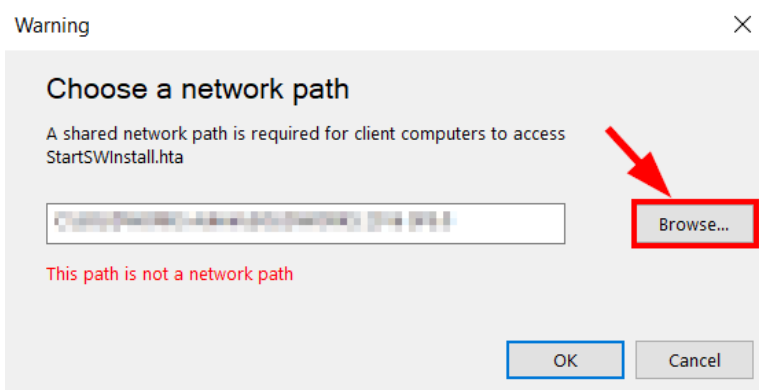

Figure 1
***Note:** After deploying, you may see this window pop-up (Figure 1). Select your **shared Network folder** through the network browsing window (Figure 2) that was saved to during image creation, and hit **OK**: